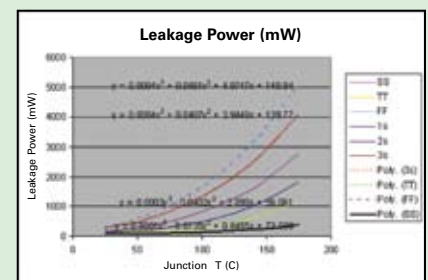

Figure 3. SOC leakage power as a function of temperature for various statistical process corners, 90nm CMOS node.
The second step is to tailor the model down to a specific SOC. This is achieved by extrapolating inserting the SOC specific core and memory sizes, as well as the estimated percentages of high- versus low-leakage logic blocks and potential voltage over-drive or under-drive conditions. Figure 3 shows an actual prediction of the SOC Leakage Power behavior based on this model.
The bottom curve reflects the Slow-NMOST + SLOW-PMOST process corner (SS), the top curve shows the opposite FAST-FAST process corner. In between are the typical (TT) process and the 1, 2 and 3 sigma fast process corners. The FAST process corner “leaks” an order of magnitude more than the SLOW corner. Figure 3 also shows the regression curves (curve fits) indicating that CMOS core circuitry leakage behaves like a 3rd order polynomial. Note that all physical leakage sources are included like the ever more dominant gate (tunnel) leakage component.